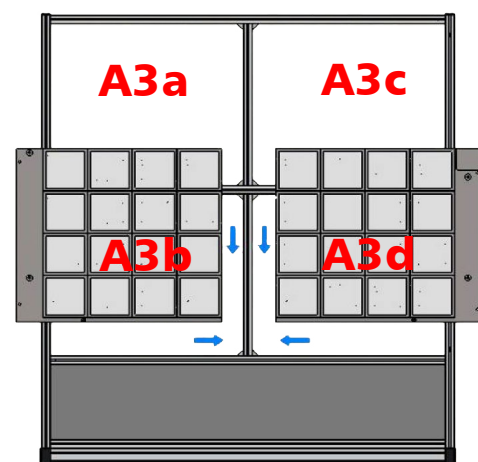

fig. 3.1-30
Step 22 The basic modules **A3a** to **A3d** are marked bottom right (UR), bottom left (UL), top right (OR) and top left (OL). Insert the two lower basic modules into the frame construction using the z-profiled plates attached to the rear of each module (**fig. 3.1-30**). The basic modules will be fixed with two (2) provided socket head screws **M8x30** and two (2) washers for each module.